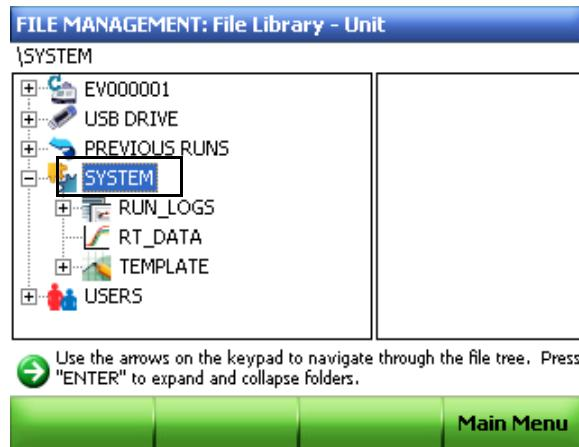

Figure 16. The **SYSTEM** folder is highlighted.
- **SYSTEM** folder — contains run logs, real-time PCR data, and templates (Figure 16)